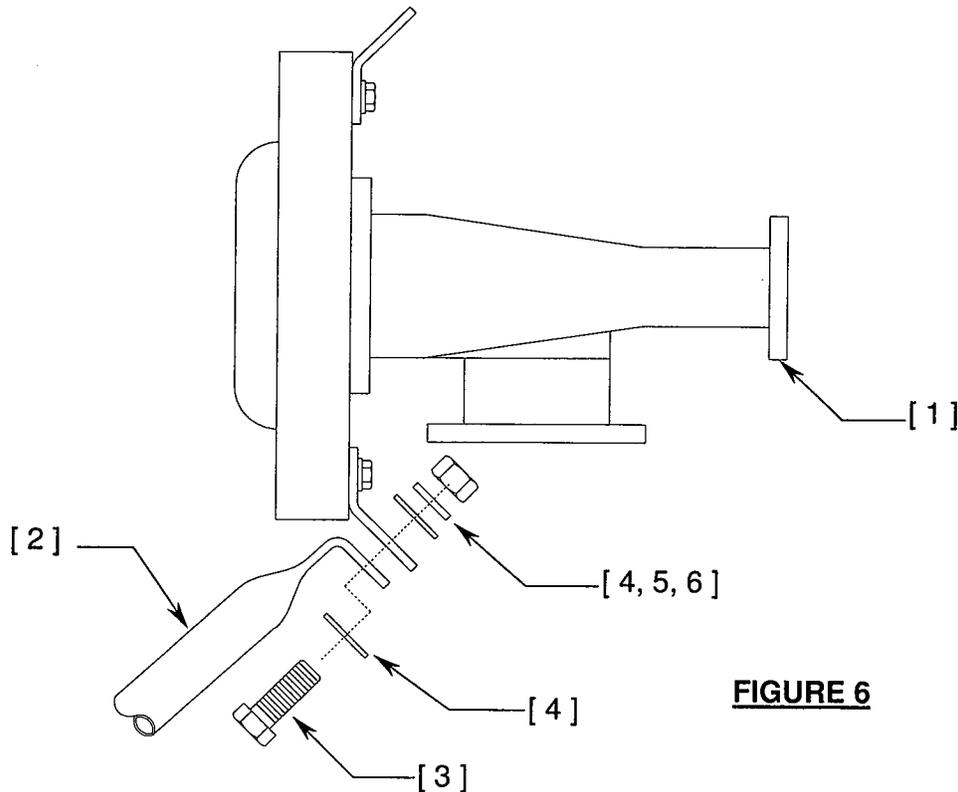
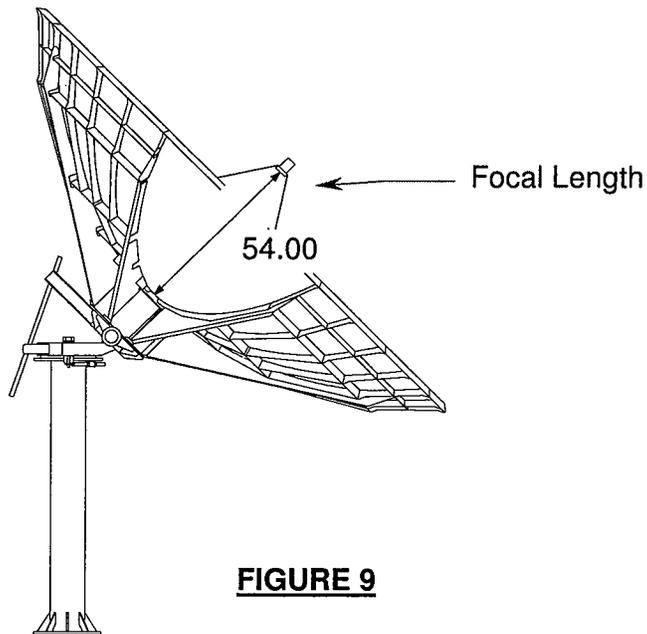

FIGURE 6
FIGURE 9
1. **FOCAL LENGTH** - As shown in figures 6 thru 8, attach the feed horn assembly to the four feed rods with the same 3/8" hardware as above. Tighten the four bolts securely at this time. Check the focal length by measuring from the face of the feed horn to the reflector cover plate as shown in figure 9. If the focal length is incorrect, adjust the feed clevises in or out at the reflector surface as needed. Be sure that the clevises are adjusted equally. When the focal length is correct, tighten all feed support and clevis hardware securely.